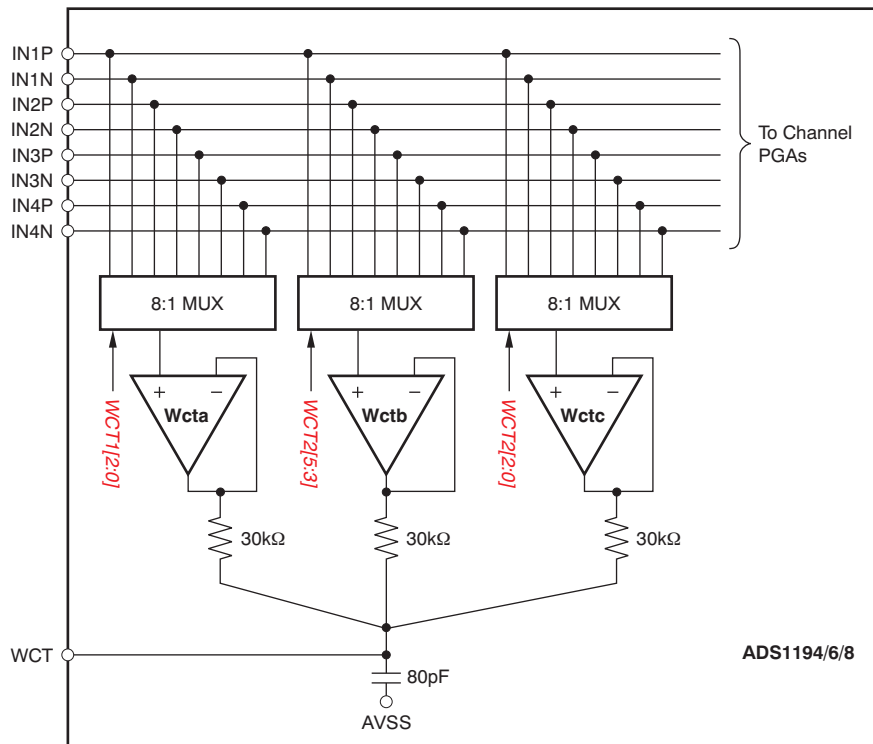

Figure 32. WCT Voltage
In the standard 12-lead ECG, WCT voltage is defined as the average of Right Arm (RA), Left Arm (LA), and Left Leg (LL) electrodes. This voltage is used as the reference voltage for the measurement of the chest leads. The ADS1194/6/8 has three integrated low-noise amplifiers that generate the WCT voltage. Figure 32 shows the block diagram of the implementation.